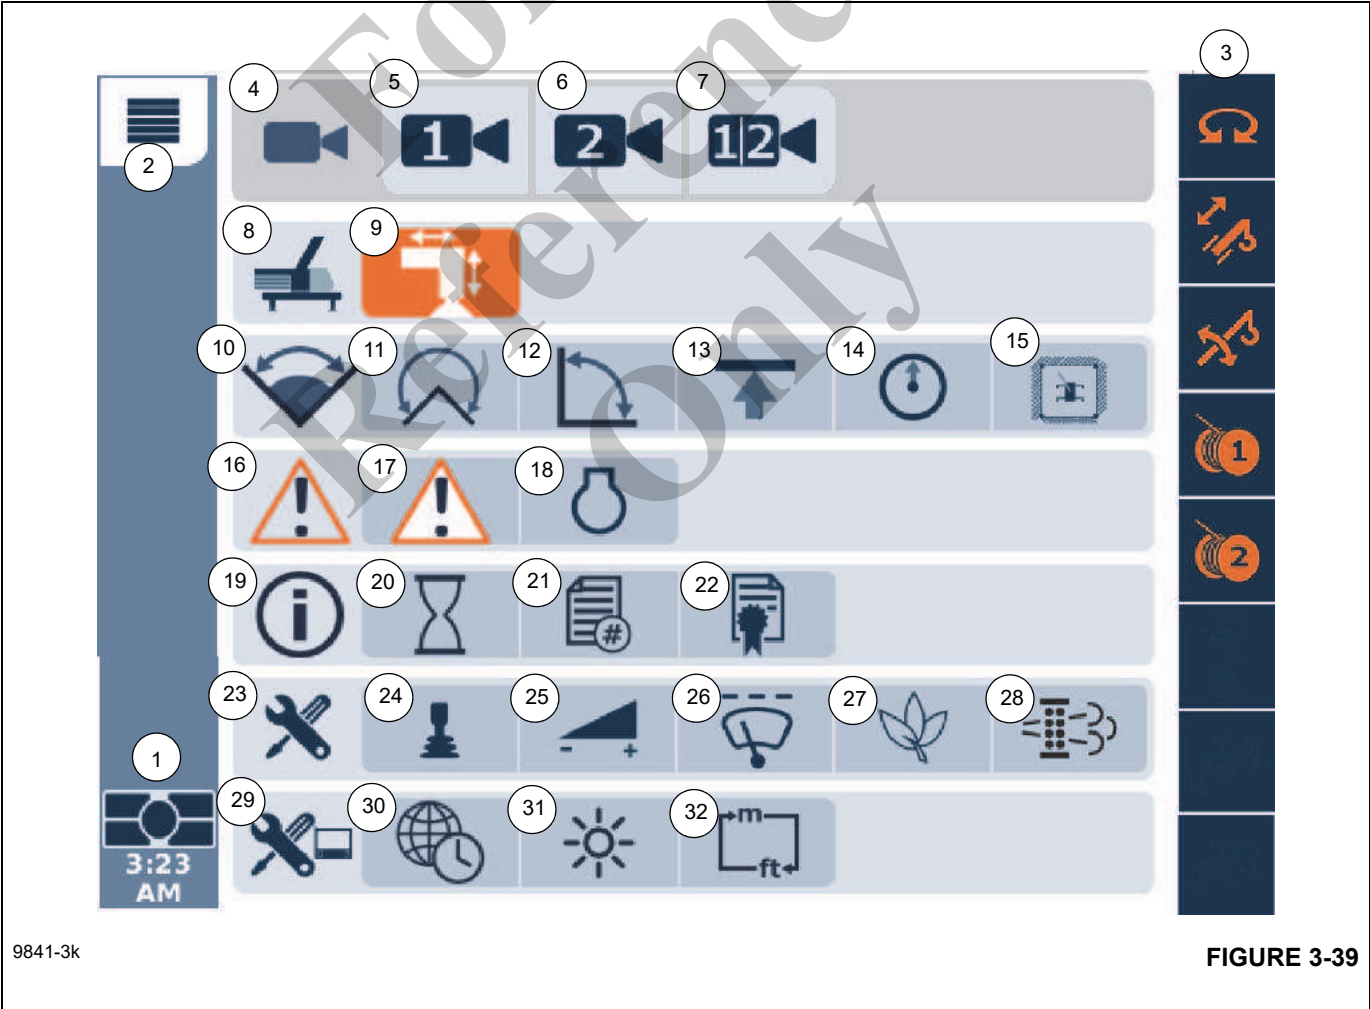

FIGURE 3-39
28) indicates the Active Screen. Item 2, (Figure 3-39) indicates the Menu Screen. The additional menu items are listed in Figure 3-39 and on the following Table.
The Camera Group Menu (4), (Figure 3-39) or (Figure 3-42) includes camera view 1, camera view 2 and/or camera view 1 and 2. Refer to *Camera Group (Optional) Display on ODM*, page 6-15 for additional information.
The Crane Function Menu Group (8), (Figure 3-39) includes the Outrigger Menu. Refer to *Camera Group Menu*, page 4-42.